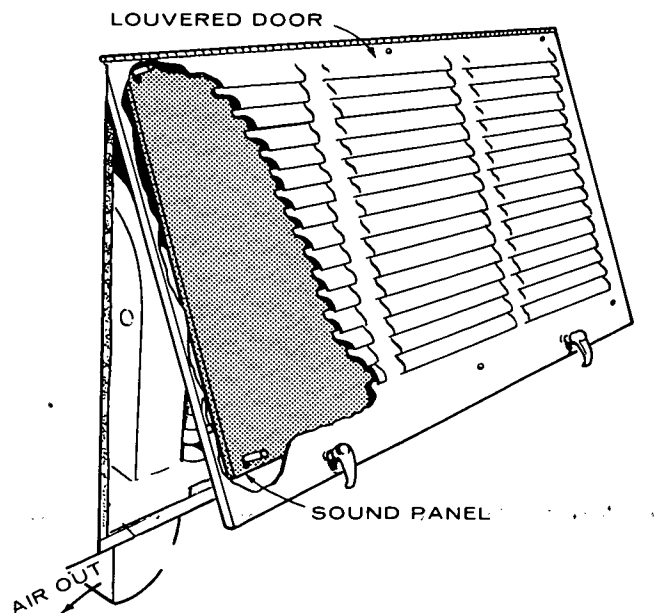

FIGURE 4. TYPICAL LOUVERED DOOR AIR INLET
Sheet metal with louvers can be used over inlet areas. However, some provide only 60 percent free inlet area per square foot. Even the most efficient grille only provides about 90 percent free inlet area per square foot. The free inlet area of the material can be obtained from the manufacturer. Calculate the inlet area needed using the following example as a guide. See Figure 4.
4. To prevent line of sight noise indication, a sound panel (baffle) may be added behind lowered air inlet. The panel must be spaced to allow for minimum free air inlet of 100 square inches. See Figure 4.